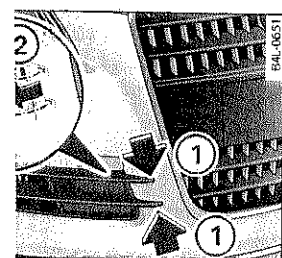

Fig. 320 Right front bumper: Removing the air intake grill
er tab down and the lower tab up ⇒ fig. 320
When installing the grill for the air duct, be sure that the tabs on the grill are first inserted into their guides on the vehicle above the foglamp. Then position the opposite side of the grill ⇒ page 392, fig. 320 ② and push it firmly into its guide.